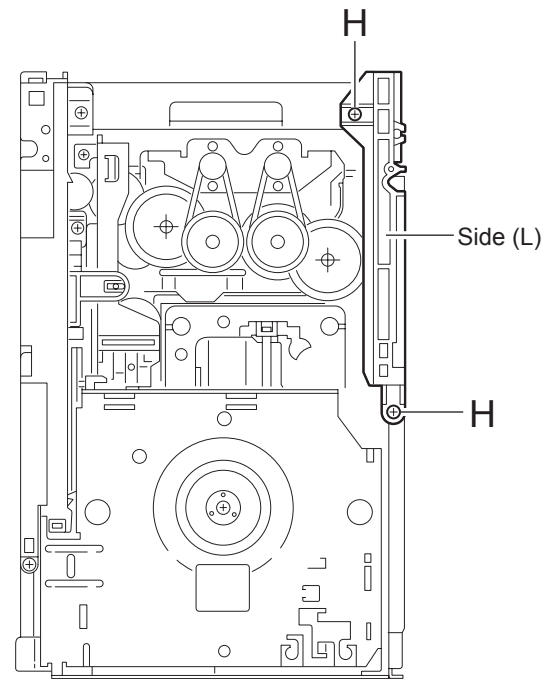

Fig.15
3.2.7 Removing the side (L)/ tray switch board (See Fig.15 ~ 17)